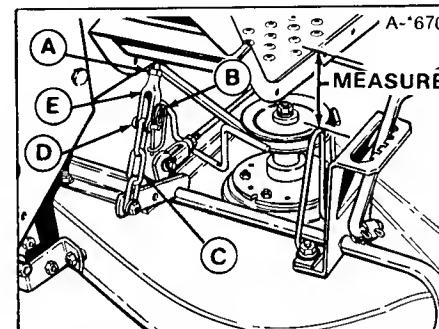
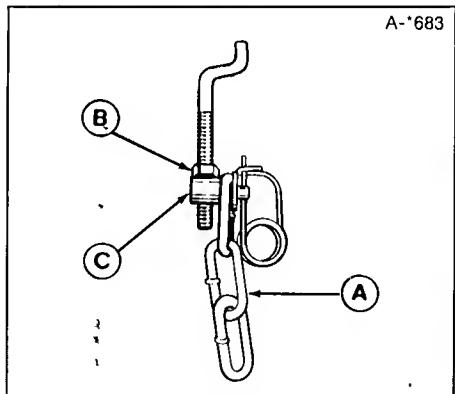

Figure 44. Lift Assembly - Small Lift Lever
Figure 46. Lift Assembly - Large Lift Lever.
- Measure the distance between top of upstop bracket and bottom of footrest (figure 44). The measurement should be 3-1/4".
- To adjust, disconnect clevis (E, figure 44) from chain. Loosen the nut, and turn clevis to raise or lower mower. Tighten nut when measurement is correct.
3. The measurement should be 6". To adjust, disconnect trunnion (figure 46) from chain. Loosen the nut (B) and turn the trunnion to raise or lower mower. Tighten nut when measurement is correct.
In the next step, refer to figure 44 if small lift lever is used or figure 46 if large lift is used.
3. To adjust, disconnect clevis (E, figure 44) or trunnion (C, figure 46) from chain. Loosen the nut, and turn clevis or trunnion to raise or lower mower. Tighten nut when measurement is correct.